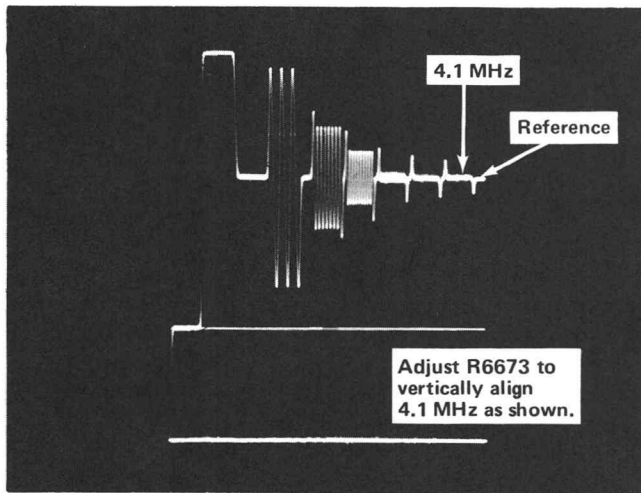

Fig. 4-25. Typical vectorscope display (Y) of Multiburst luminance.
b. Adjust R6673 (MB Centering) to match the level of the 4.1 MHz burst to the 0 reference level on the vectorscope Y display, see Fig. 4-25.
CHECK—Level of 4.1 MHz burst matches the 0 reference level on the vectorscope Y display, see Fig. 4-25.